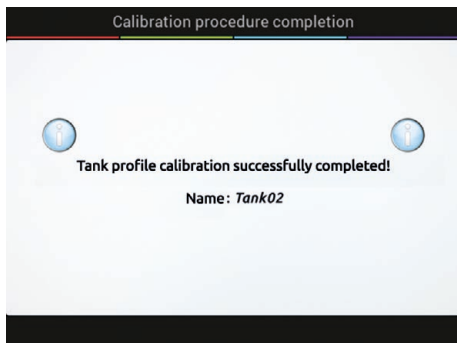

Fig. 151
- 11** A confirmation message is displayed once the process is completed (Fig. 151). Press **OK** or **ESC**. The calibration is completed.